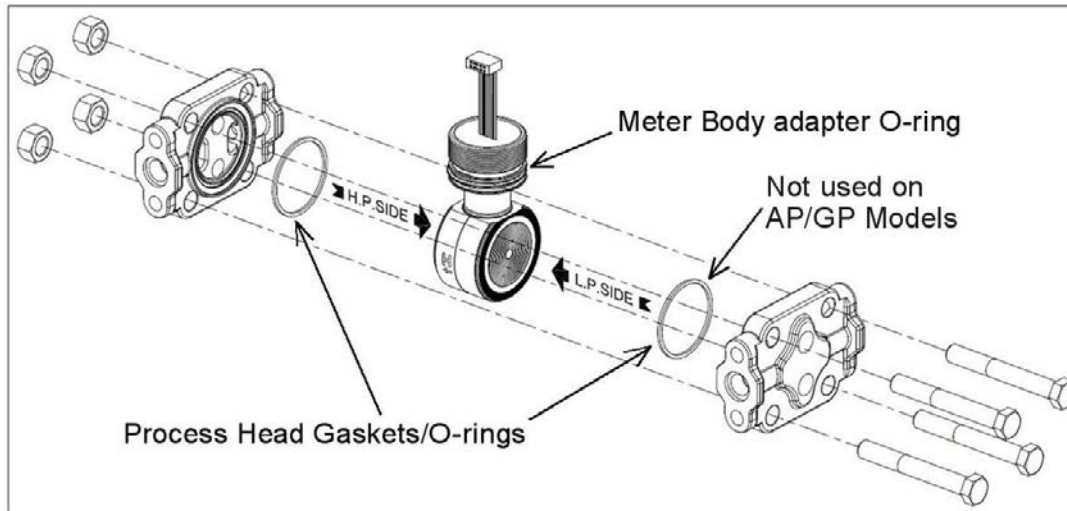

Figure 26 – Meter Body Reassembly
15. Refer to Figure 26. Apply Dow Corning #33 silicone grease to the meter body adapter O-ring and carefully assemble the O-ring to the meter body. Assemble the process head(s) and bolts to the new meter body. For now, make the bolts only finger-tight.